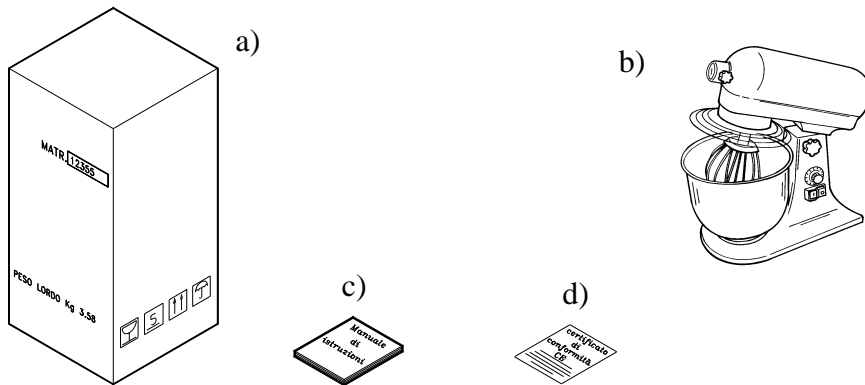

FIG. n. 3 - Description of packaging
3.1 - DESPATCH OF THE MIXER (see FIG. n. 3)